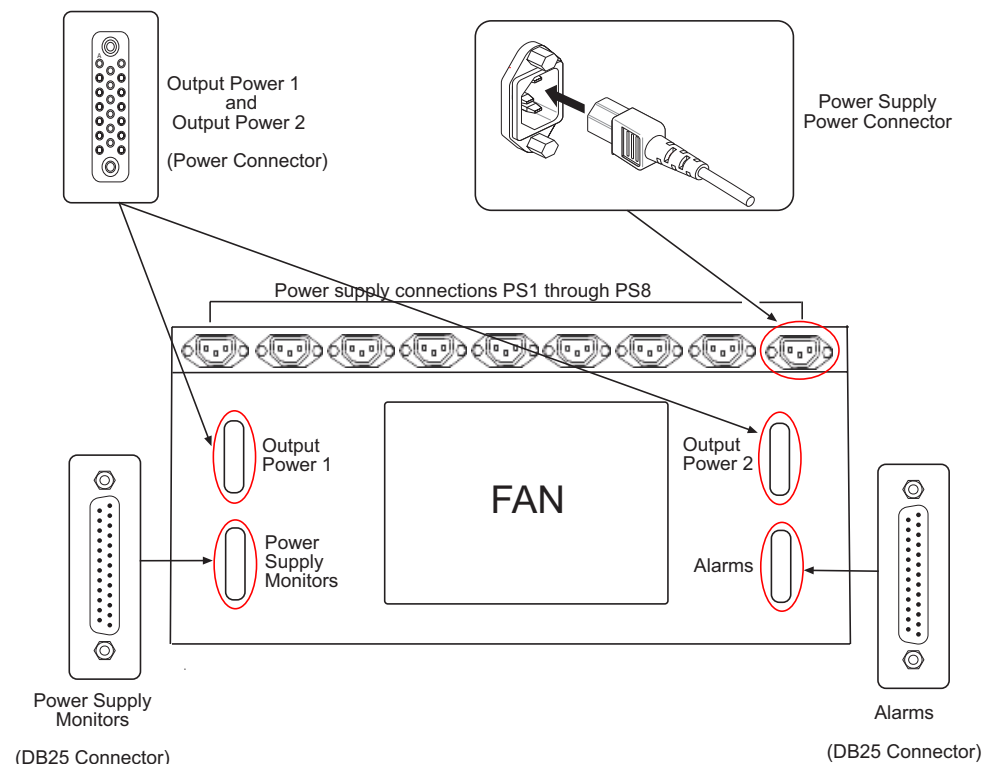

Figure 2-2. NV6257 Power Supply (Rear View)
- 3 Facing the rear of the **NV6257**, connect the power supply cable (WC0085) to 'Output Power 1', as shown in Figure 2-2.
- 5 Facing the rear of the **NV6257**, connect one end of the monitor cable (WC0046) to the ‘Power Supply Monitors’ connection, as shown in Figure 2-2 on page 36.
- 7 Facing the rear of the **NV6257**, connect power cords from an AC power source (90-130/180-230 VAC, 50/60 Hz) into power connections *PS 1* through *PS 8*, as shown in Figure 2-2 on page 36. Connect one power cord for each PS6000 power supply module installed (see Step 8).
- 4 Facing the rear of the **NV6257**, using one of the two power supply cables (WC0085), connect one end of the cable to ‘Output Power 2’, as shown in Figure 2-2 on page 36.
- 6 Facing the rear of the **NV6257**, using the remaining power supply cable (WC0085), connect one end of the cable to 'Output Power 1', as shown in Figure 2-2 on page 36.